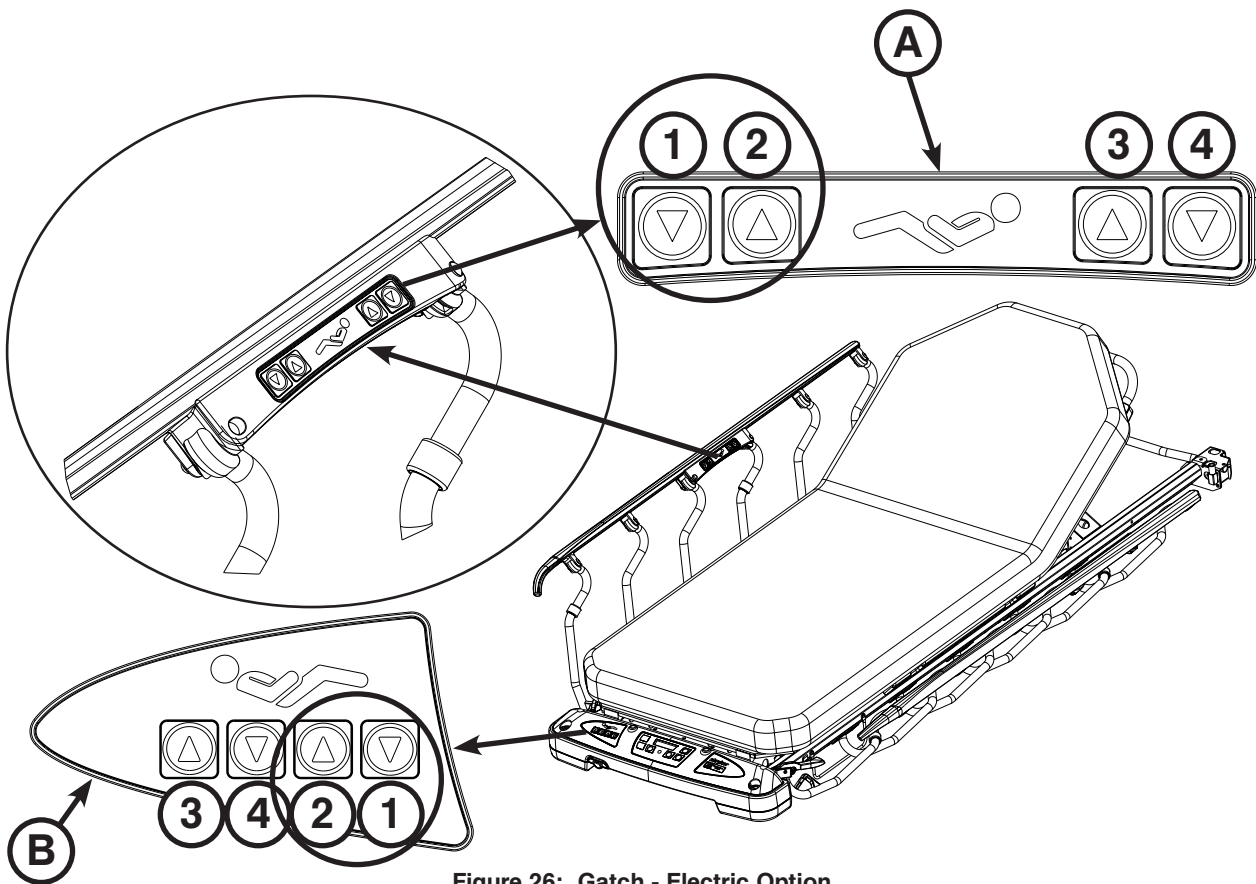

Figure 26: Gatch - Electric Option
To raise the gatch, press the UP (2) button on the siderail patient controls (A) or foot end nursing controls (B) until the gatch has reached the desired height (5.5"/14 cm minimum) as shown in Figure 26.
To lower the gatch, press the DOWN (1) button until the gatch has reached the desired height (5.5"/14 cm minimum) as shown in Figure 26.